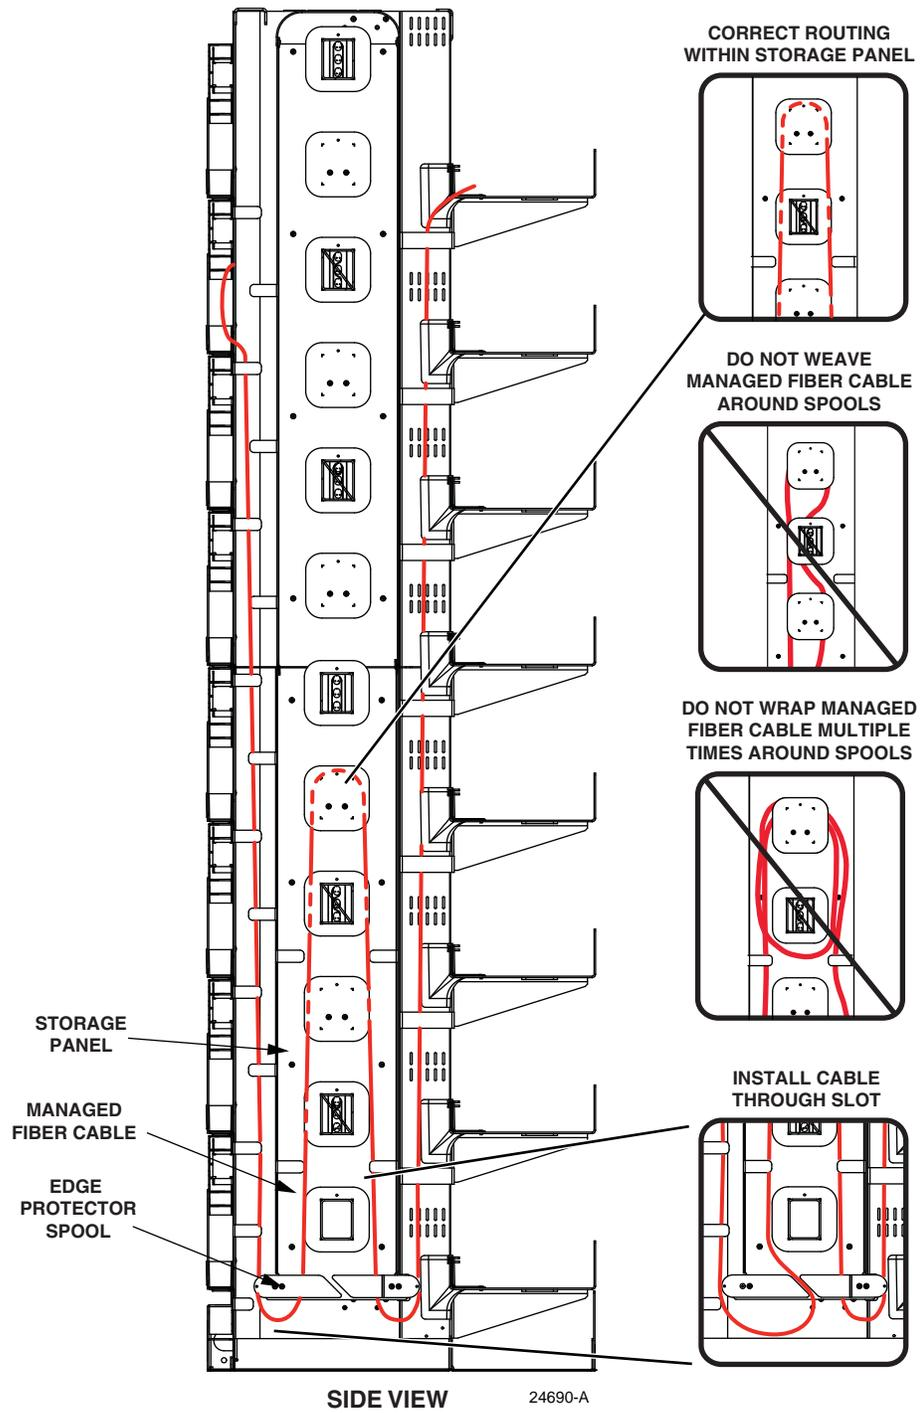

Figure 27. Slack Cable Storage
10. Locate center of cable (slack) and place over appropriate spool in vertical cable manager. See Figure 27. Slide cable slack to the back of each spool.